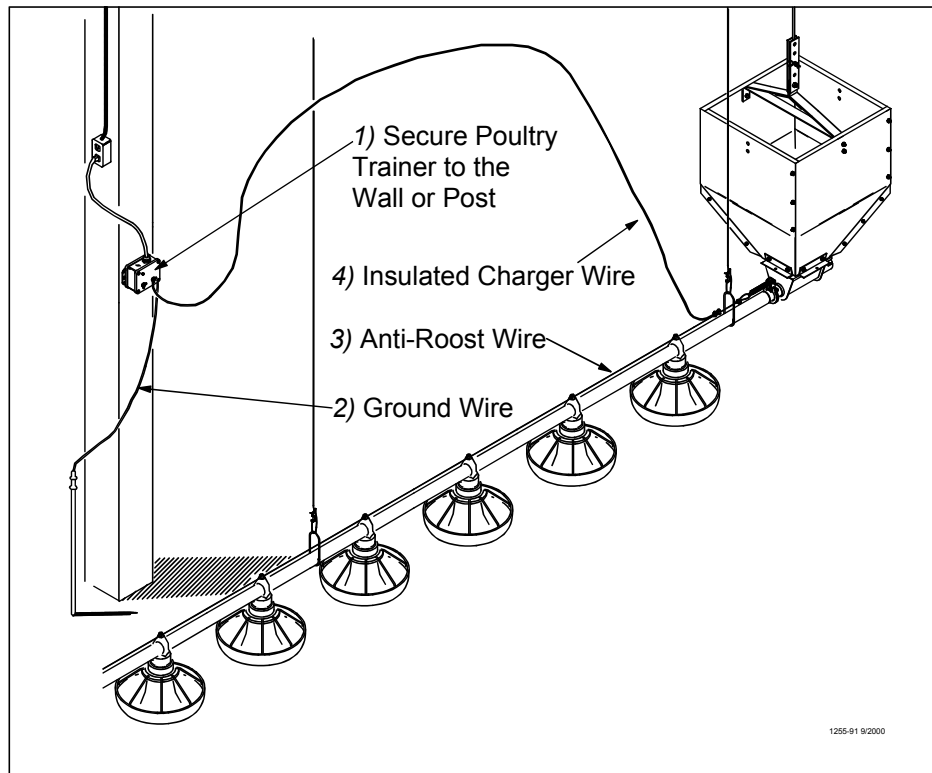

Figure 56. Poultry Trainer Installation
15. Install the Poultry Trainer or Line Charger, as shown in **Figure 56**. or **Figure 57**.
The Poultry Trainer is used to power all Anti-Roost lines in a house. See **Figure 56**.